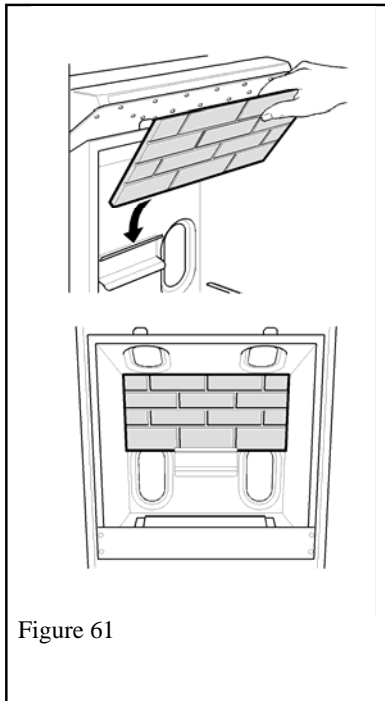

Figure 61
1. Locate the ceramic rear wall in the channel at back of the firebox and flat against the back of the firebox. See figure 61.